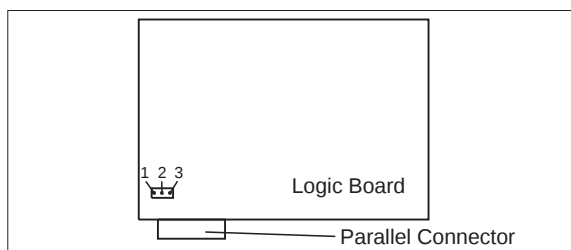

Figure 118. Model A00 Logic Board Jumper Location. (Viewed From Rear)
6. Remove the jumper for use on the new board. See Figure 118 on page 377.